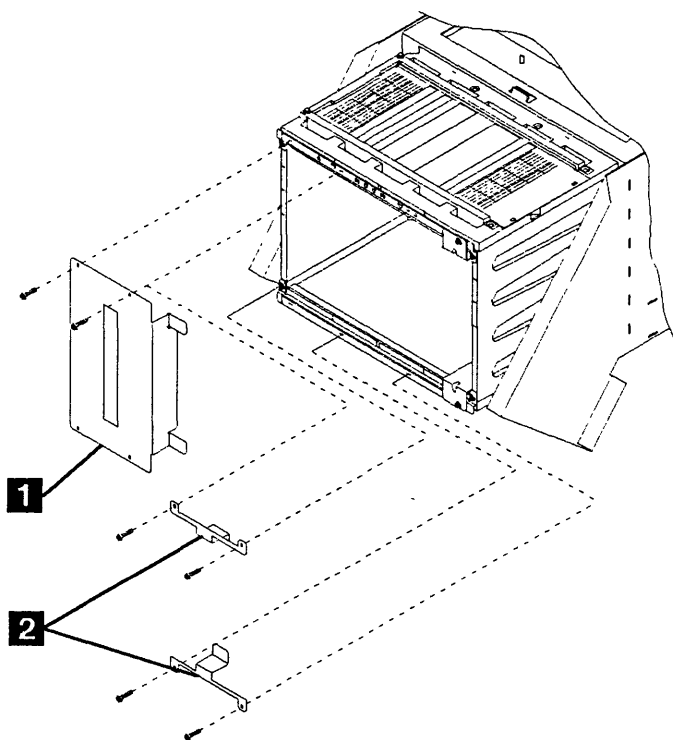

Figure 5-161. SAC Gate Assembly - Brackets
6. Refer to Figure 5-161. Working from the rear of frame 01, do the following:
6. Refer to Figure 5-161 on page 5-162, then from the rear side, do the following :